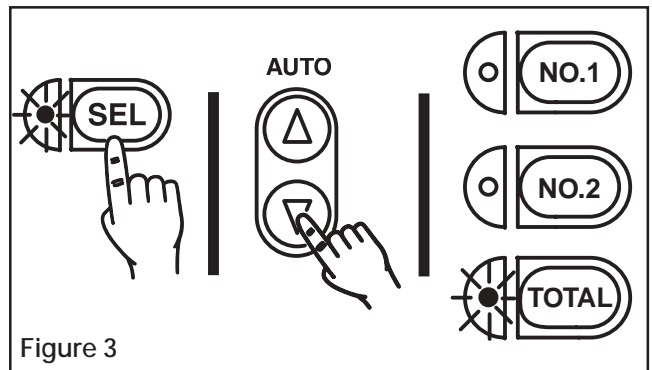

Figure 3
3. Press and hold the SElect Key until the SElect Indicator illuminates (See Figure 3). The No. 1, No. 2, and TOTAL Tension Sensor Display Indicators will extinguish (See Figure 3).
4. Press the AUTO Key up arrow until the SET1 function indicator is on (See Figure 3).